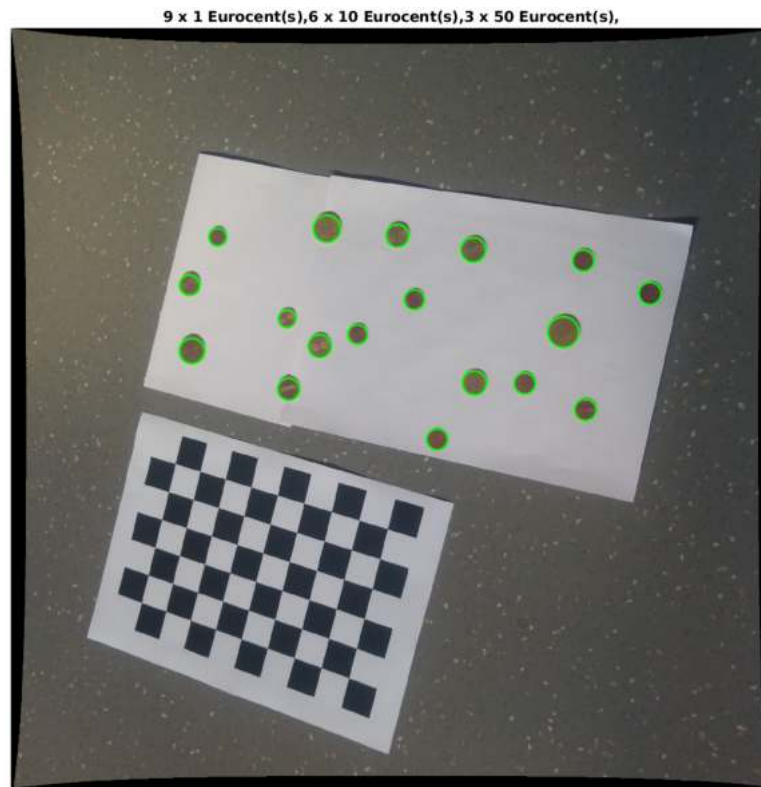

Figure 3: An example of the image 'Coins.png'.
- f) Count how many coins are in each category and give the result in the title of the figure. Save the figure as 'Coins.png'. An example is shown in fig. 3.